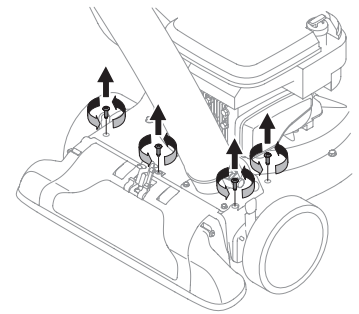

Figure 22
- Remove the four screws on the upper housing that secure the nozzle cover. See Figure 22.